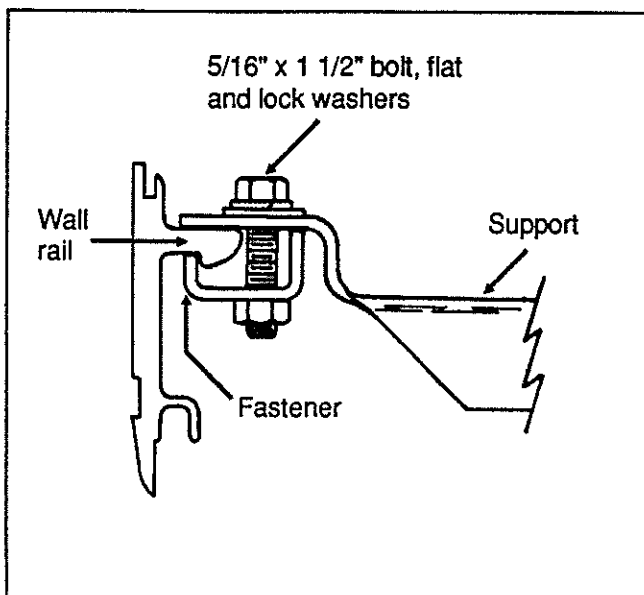

Figure 2 - Installation of support to wall rail
8. Attach each seat module support to wall rail using (2) wall rail fasteners, 5/16" x 1 1/2" bolts, flat and lock washers. **DO NOT TIGHTEN.** Refer to figure 2 to correctly assemble support to wall rail.